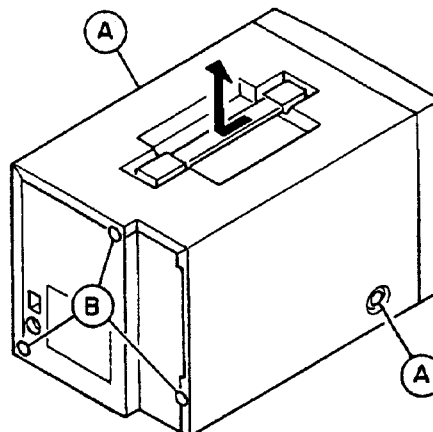

Fig. 1
- (1) Remove the 2 screws ⑧ shown in Fig. 1.
- (2) Remove the 3 screws ⑨.
- (3) Slightly pull backward as shown by the arrow and remove the top cover.